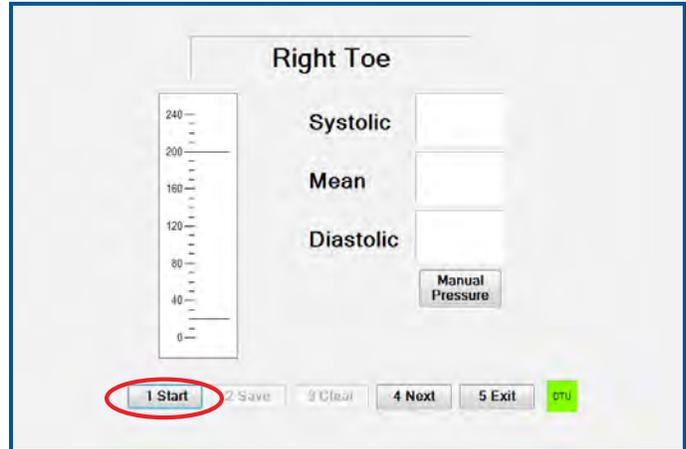

FIGURE 1.24 - Right Toe - "Start" Button
29. Toe pressure measurements follow the same procedure as ankle pressures. Place the toe pressure cuff on the Right Great Toe. The PPG probe must be placed distal to the cuff on the Great Toe for this test. Connect the tubing to the cuff and click "Start", or press 1 (Figure 1.24).